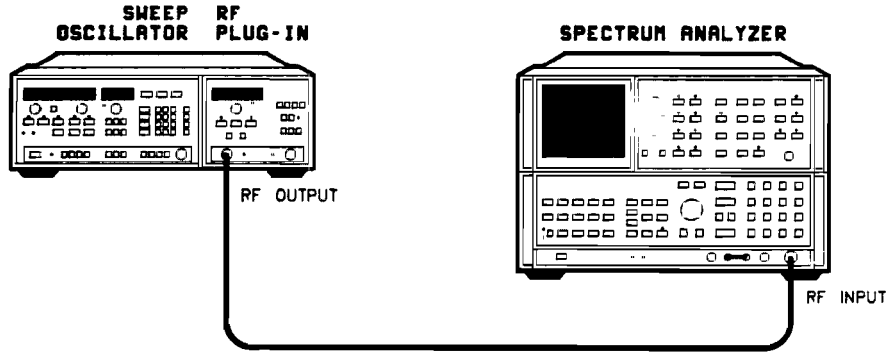

Figure 4-8. Spurious Signal Test Setup
1. Connect the equipment as shown in Figure 4-8. Allow one hour warm up.